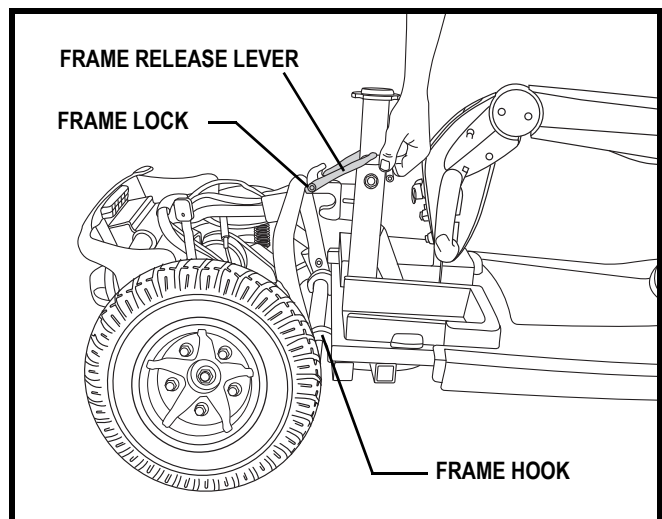

Figure 23. Frame Release
2. Lift up on the frame release lever. See figure 23.
2. Use the frame release lever to lift the front section as you align the frame hooks of the front section with the lower frame tube of the rear section. See figure 23.
3. Once the frame hooks are over the lower frame tube, lower the front section completely. This will engage the frame lock. See figure 23.